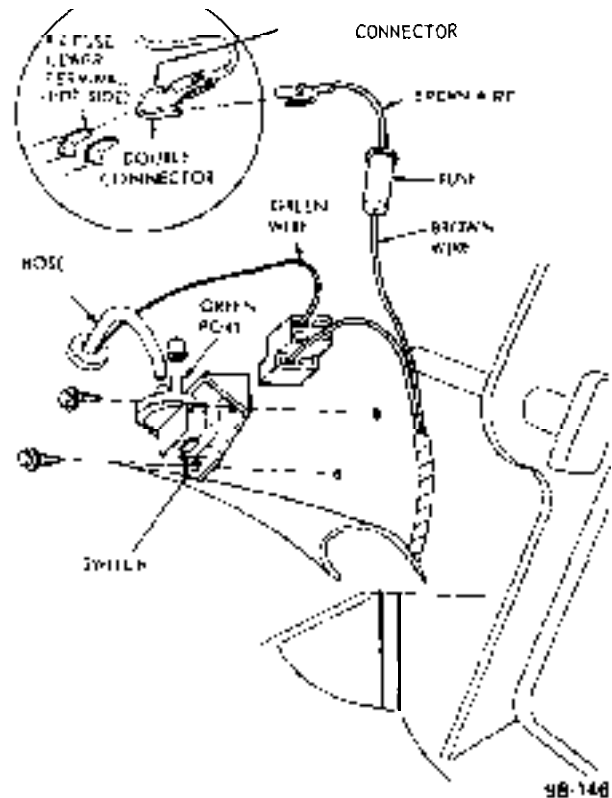

Figure 9B-193 Vacuum Switch
2. Remove the retaining screws from the duct assembly. See Figure 9B-190.